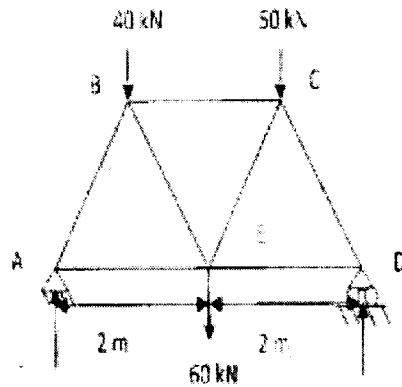

Fig.3
- c) Determine the forces in all member of the truss shown in fig. 3 and indicate the magnitude and nature of forces on the diagram of the truss. All inclined members are at 60° to horizontal and length of each member is 2 m.